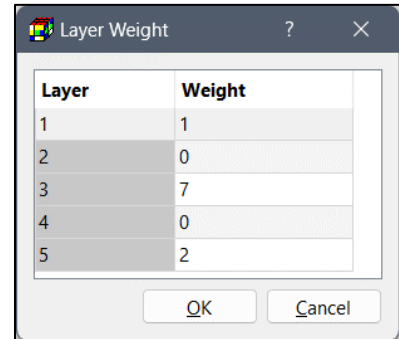

Figure 39. The Layer Weight dialog box
- **Layer:** Double-click on the cell of the respective well to edit its layer weights in the Layer Weight dialog box (Figure 39). A single-layer observation point is defined by setting a positive Weight value to one and only one layer. A multi-layer observation point is defined by assigning positive Weight values to more than one layer.
The model can be configured to automatically update layer weights based on revised HK or T values after each iteration during a PEST run. However, the layer weights displayed in the Layer Weight dialog box (Figure 39) and used by the Scatter and Line Charts (Sections 3.9.1.6.3 and 3.9.1.6.4) are not updated automatically; they are refreshed only when *More Actions > Apply PARVAL1* is selected in the PEST Settings dialog box (Section 3.9.5.2). For details, see **LAYERWEIGHTOPT** in Section 3.9.5.2.7.
- **Layer Weight:** Select this option to open the Layer Weight dialog box (Figure 39), and to assign the define Layer Weight values to the selected observation points.